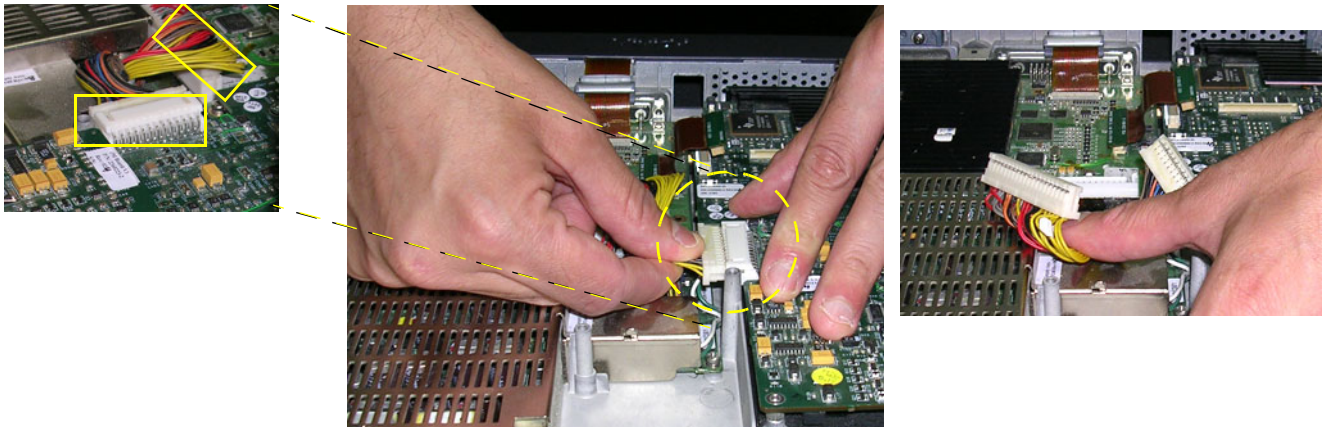

Figure 8-55 Disconnecting the DC Power Supply Cables
- 3) Reconnect each of the two Power Supply cables to the DC Power Supply (HVPS-to-BEP and HVPS-to-RFI), as shown in Figure 8-55 on page 8-46.